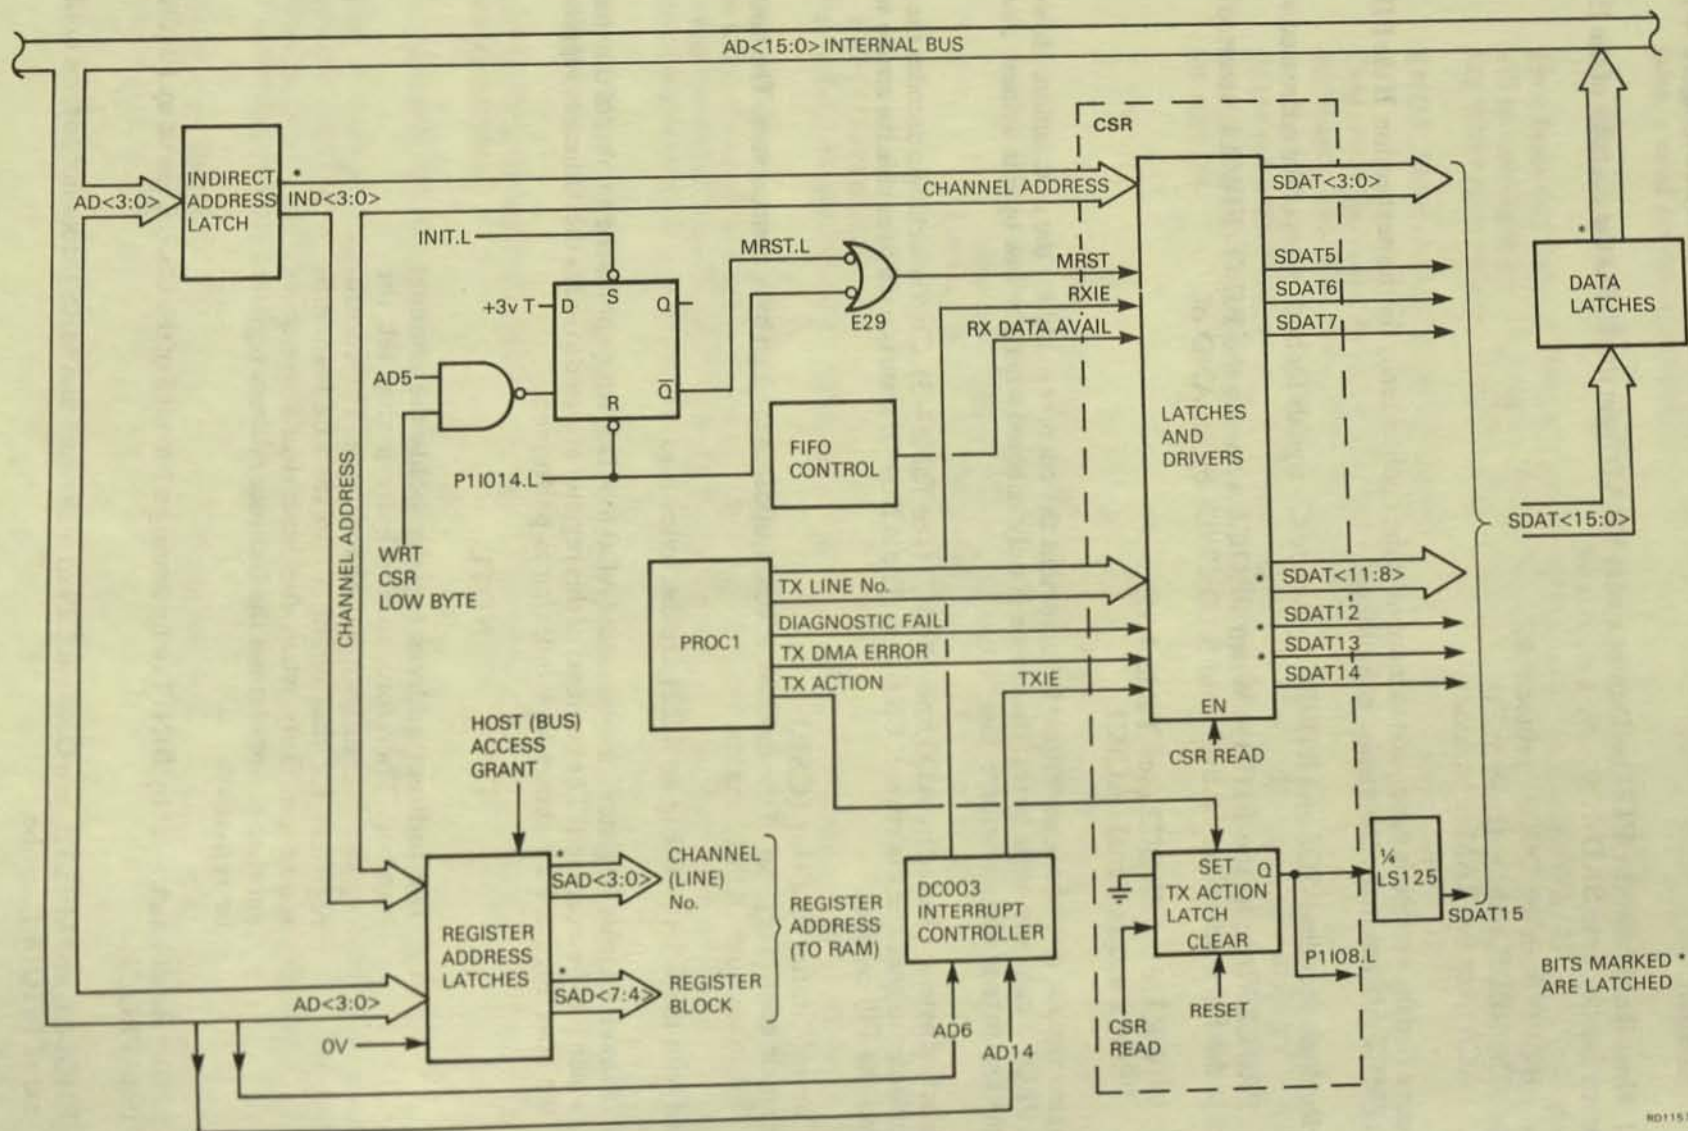

Figure 4-20 CSR and Register Address Circuits
Associated with the CSR (see Figure 4-20) are the following:
- Indirect Address Register – a 4-bit latch (AD0 to AD3) which holds the number of the channel which is to be accessed. The contents of this register are used to index the addresses supplied by the host. Figure 4-20 shows how indexing is performed.